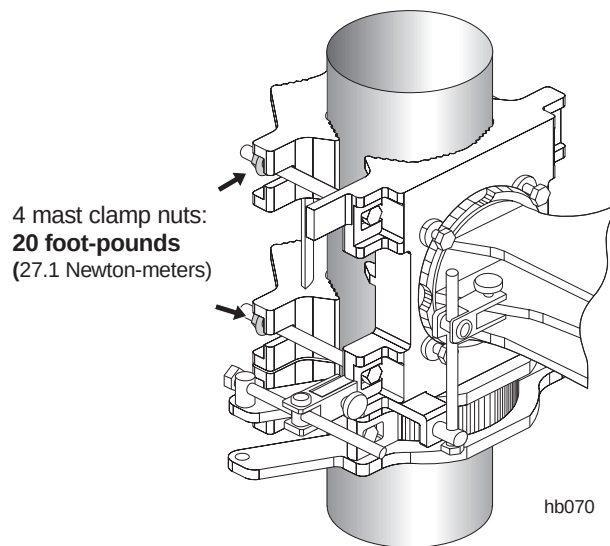

Figure 7-5 Verifying torque of the mast clamp nuts
8. **Using a torque wrench with a deep socket, verify that the torque of the four mast clamp nuts on the antenna mount is 20 foot-pounds (27.1 Newton-meters).** See figure 7-5.
13. **When the voltage reading remains steady between 0.2 volts and 3.9 volts, tighten the mast clamp nuts (shown in figure 7-5) to 20 foot-pounds (27.1 Newton-meters) torque.**